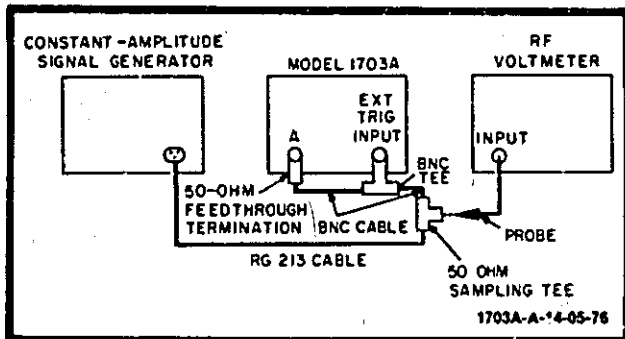

Figure 5-14. Main Triggering Test Setup
a. Connect instruments as shown in figure 5-14.